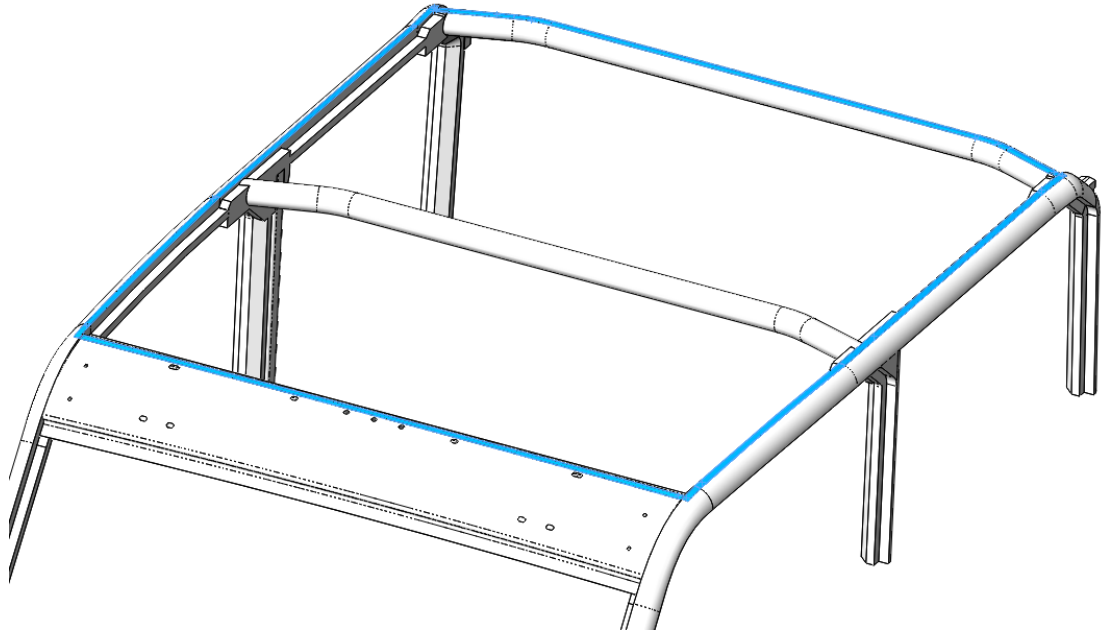

Figure 5: Areas to apply foam tape.
3. Clean the surface of the cage to remove dirt and residue before installing the foam cab sealing tape. Use a mild detergent or paint safe solvent and allow to completely dry. Place the supplied foam tape across the surfaces highlighted in Figure 5 below.